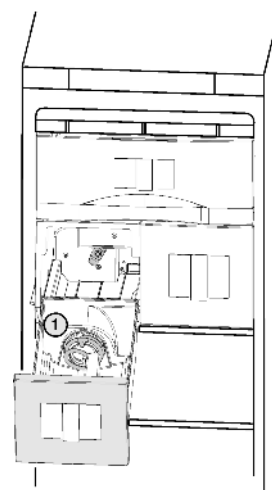

Fig. 9
- ▶ After cleaning, slide in the container again as far as it will go. If the container will not slide in all the way, turn the feed screw *Fig. 9 (1)*.